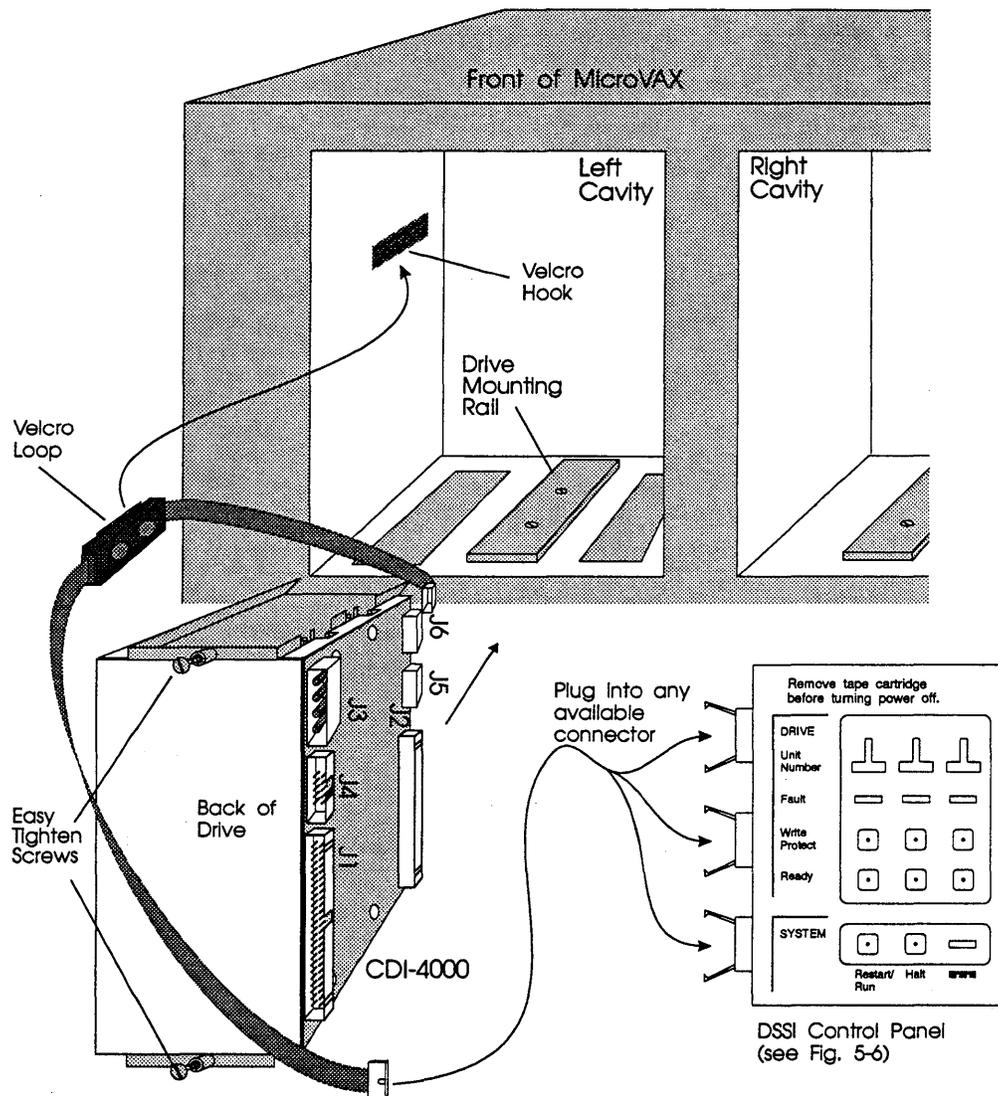

Figure 5-8: Sliding the drive into the cavity
- 12 Install the front panel adapter kit (CDI-4007) by the following procedure. See figure 5-8.
- 13 Slide the drive into the cavity with the CDI-4000 facing the right, aligning the drive mounting bracket with the drive mounting rails. See Figure 5-8.
- 14 Tighten the two easy tighten screws on the mounting bracket now located at the top and bottom of the cavity. See Figure 5-8.